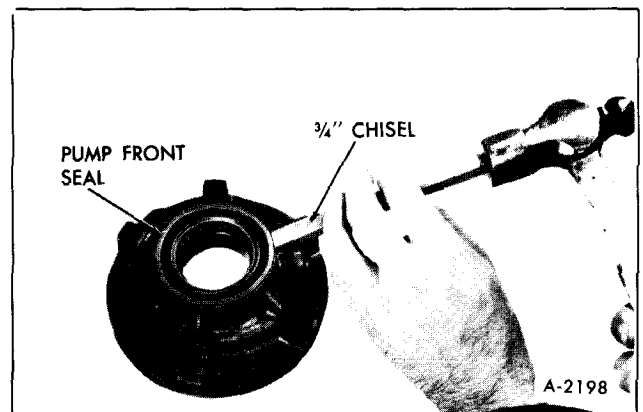

Figure 81-Removing Pump Front Seal
9. Inspect front seal for damage. If replacement of front seal is necessary, use a standard 3/4" cold chisel and pry front seal from pump body, Figure 81.